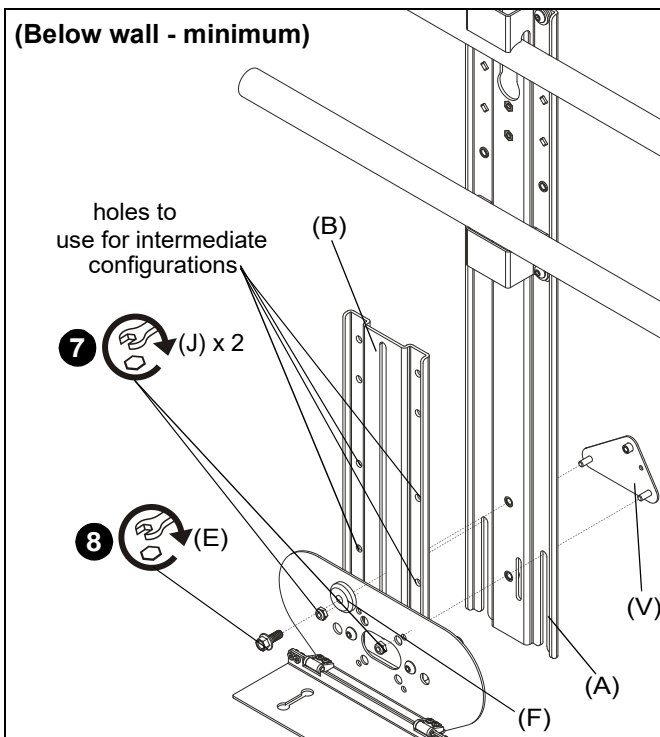

Figure 6
- (For **minimum/intermediate extension**) Use two #10-24 lock nuts (J) to secure upright bracket (A) to main bracket (B) and adapter plate (H). (See Figure 6)
- (For **minimum/intermediate extension**) Use 1/4-20 x 5/8" hex head flange bolt (E) and center washer (F) to secure upright bracket (A) to main bracket (B). (See Figure 6)